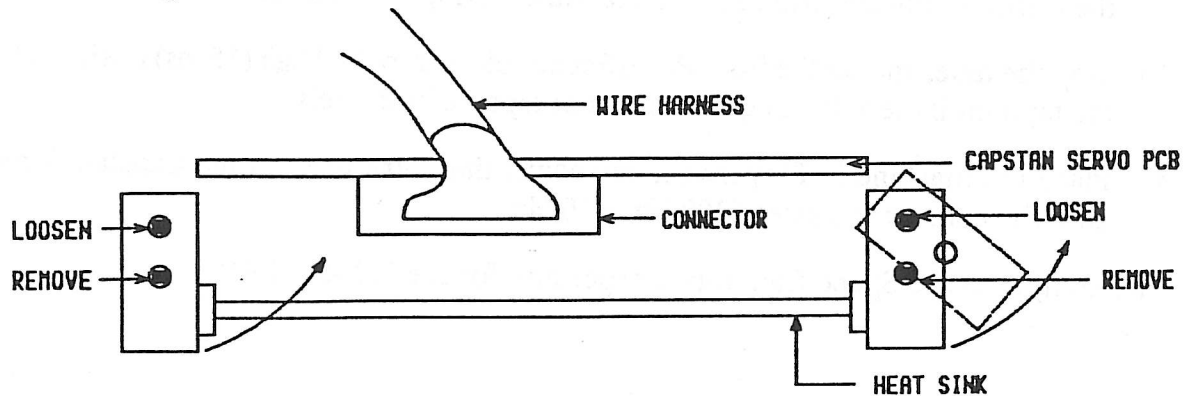

Figure 2 Capstan Servo PCB Removal
4. Remove the 2 screws which attach the bottom of the Capstan Servo PCB brackets, and loosen the 2 top screws to allow the brackets to be rotated up out of the way, and slide the Capstan Servo PCB out of its Card Guides enough to gain access to the adjustment trimmers (refer to Figure 2).